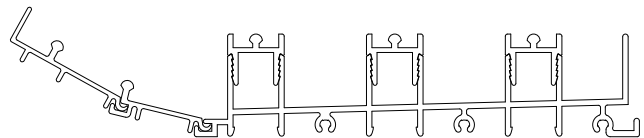

Figure 27
- 3) Insert tail piece and rotate downward locking it into place. (See Figure 27)